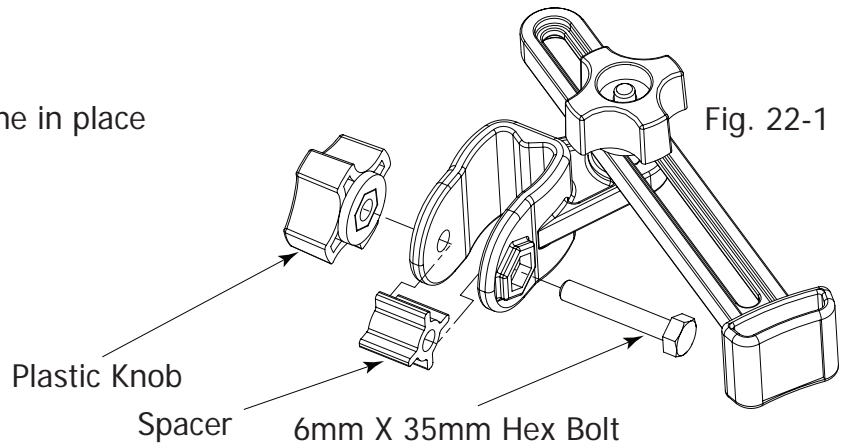

Fig. 22-1
Step 22-1: Your head clamps were shipped to you fully assembled. To attach the Head Clamps to the Carriage Assembly, first remove the Plastic Knobs, Spacers, and the 6mm X 35mm Bolts from each of the Head Clamp Assemblies, as shown in Fig. 22-1.